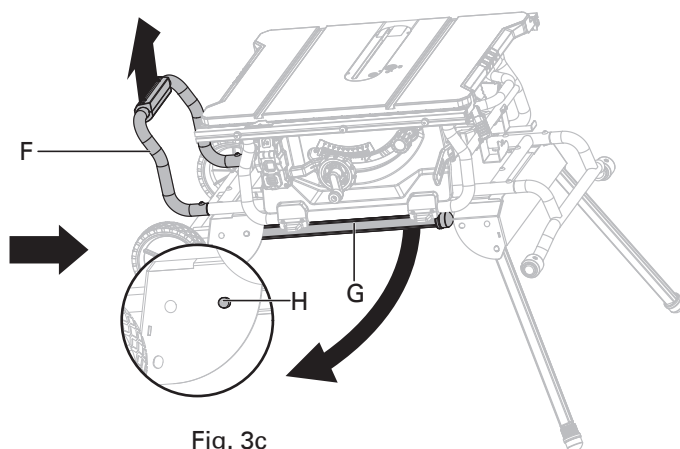

Fig. 3c
- Grasp the stand support assembly (F) and lift it up until two other stand legs (G) leaving off the ground, then fold out two stand legs (G). To do this, push the lock pins (H) until they unlock the stand legs (G) from the holes, then swing the stand legs (G) downward until the stand legs are locked with the locking pins (H) engage the holes. (Fig. 3c) Make sure the table saw is balanced with four leg stands stand on the floor.